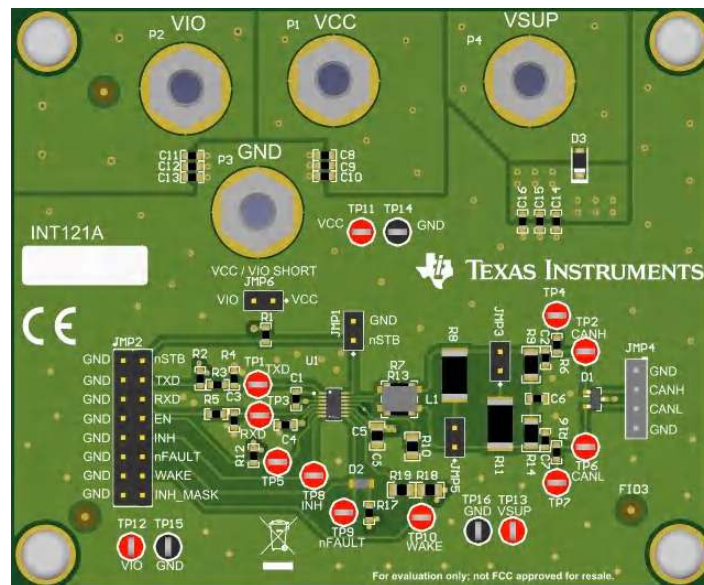

Figure 1-1. TCAN1043A-Q1 Evaluation Module (EVM)
The TCAN1043A-Q1 EVM has simple connections to all necessary pins of the CAN transceiver device, and jumpers where necessary to provide flexibility for device pin and CAN bus configuration. There are test points (loops) for all main points where probing is necessary for evaluation such as GND, V_{CC} , TXD, RXD, CANH, CANL, EN, nFAULT, and WAKE. The EVM supports many options for CAN bus configuration. It is pre-configured with two 120- Ω resistors connected on the bus via jumpers: a single resistor is used with the EVM as a terminated line end (CAN is defined for 120- Ω impedance twisted pair cable) or both resistors in parallel for electrical measurements representing the 60- Ω load the transceiver detects in a properly-terminated network (that is, 120- Ω termination resistors at both ends of the cable). If the application requires *split* termination, TVS diodes for protection, or a Common Mode (CM) Choke, the EVM has footprints available for this via customer installation of the desired components. Figure 1-1 shows the EVM board image.